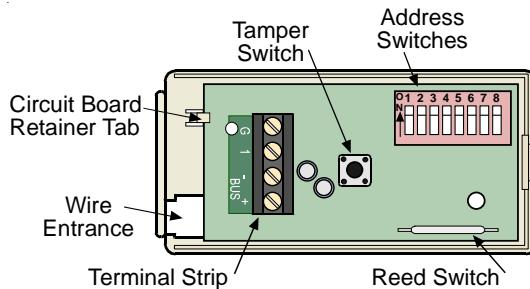

Figure 2: Removing the PCB
- Remove the DS7461i circuit board from the base. Press the circuit board retainer tab and pull the circuit board up and out of the base (refer to *Figure 2*).